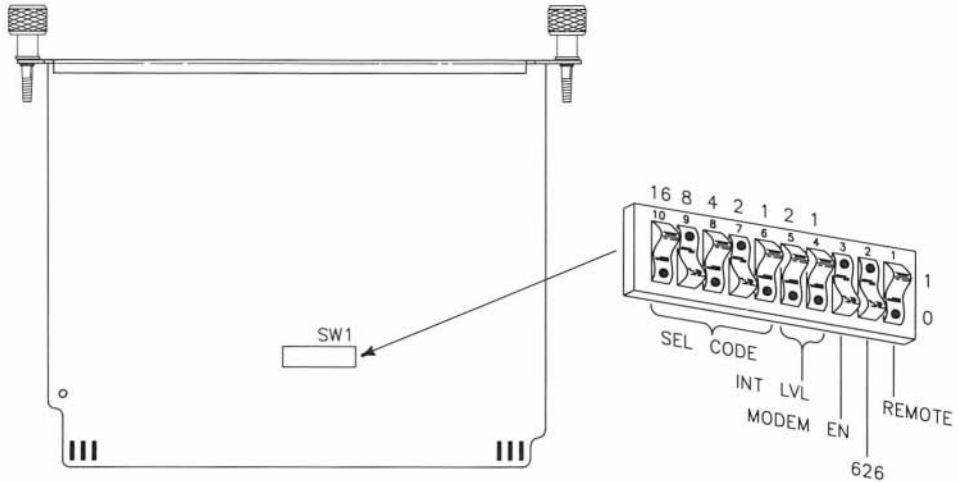

Figure 5-17. HP 98644A Asynchronous Serial Interface switches.
- Find the group of switches labeled SW1 by referring to Figure 5-17. Switches 6 thru 10 in this group determine the select code.
- a. Find the group of switches labeled SW1 by referring to Figure 5-17. Switches 4 and 5 in this group determine the interrupt level.
- a. Find the group of switches labeled SW1 by referring to Figure 5-17. Switch 3 in this group is the MODEM ENable switch.
- If you intend to connect an HP 2601A printer, an HP 2686A *Laserjet* printer, an HP 92205A/C Hayes *Smartmodem*, or a *uucp*, set this switch to **1** as shown in Figure 5-17.
- If you intend to connect a terminal or the HP 39800/01A bar code reader, set this switch to **0**, which is *opposite* that shown in Figure 5-17.
- a. Find the group of switches labeled SW1 by referring to Figure 5-17. Switch 2 in this group is the 626 switch.
- b. Set the 626 switch to **1** as shown in Figure 5-17.
- a. Find the group of switches labeled SW1 by referring to Figure 5-17. Switch 1 in this group is the Remote switch.
- If you are connecting a terminal to this interface and want this terminal to be the system console, set this switch to **1**, which is *opposite* that shown in Figure 5-17.
- If you are connecting a terminal to this interface but **do not** want this terminal to be the system console, or if you are connecting any other device, set this switch to **0** as shown in Figure 5-17.